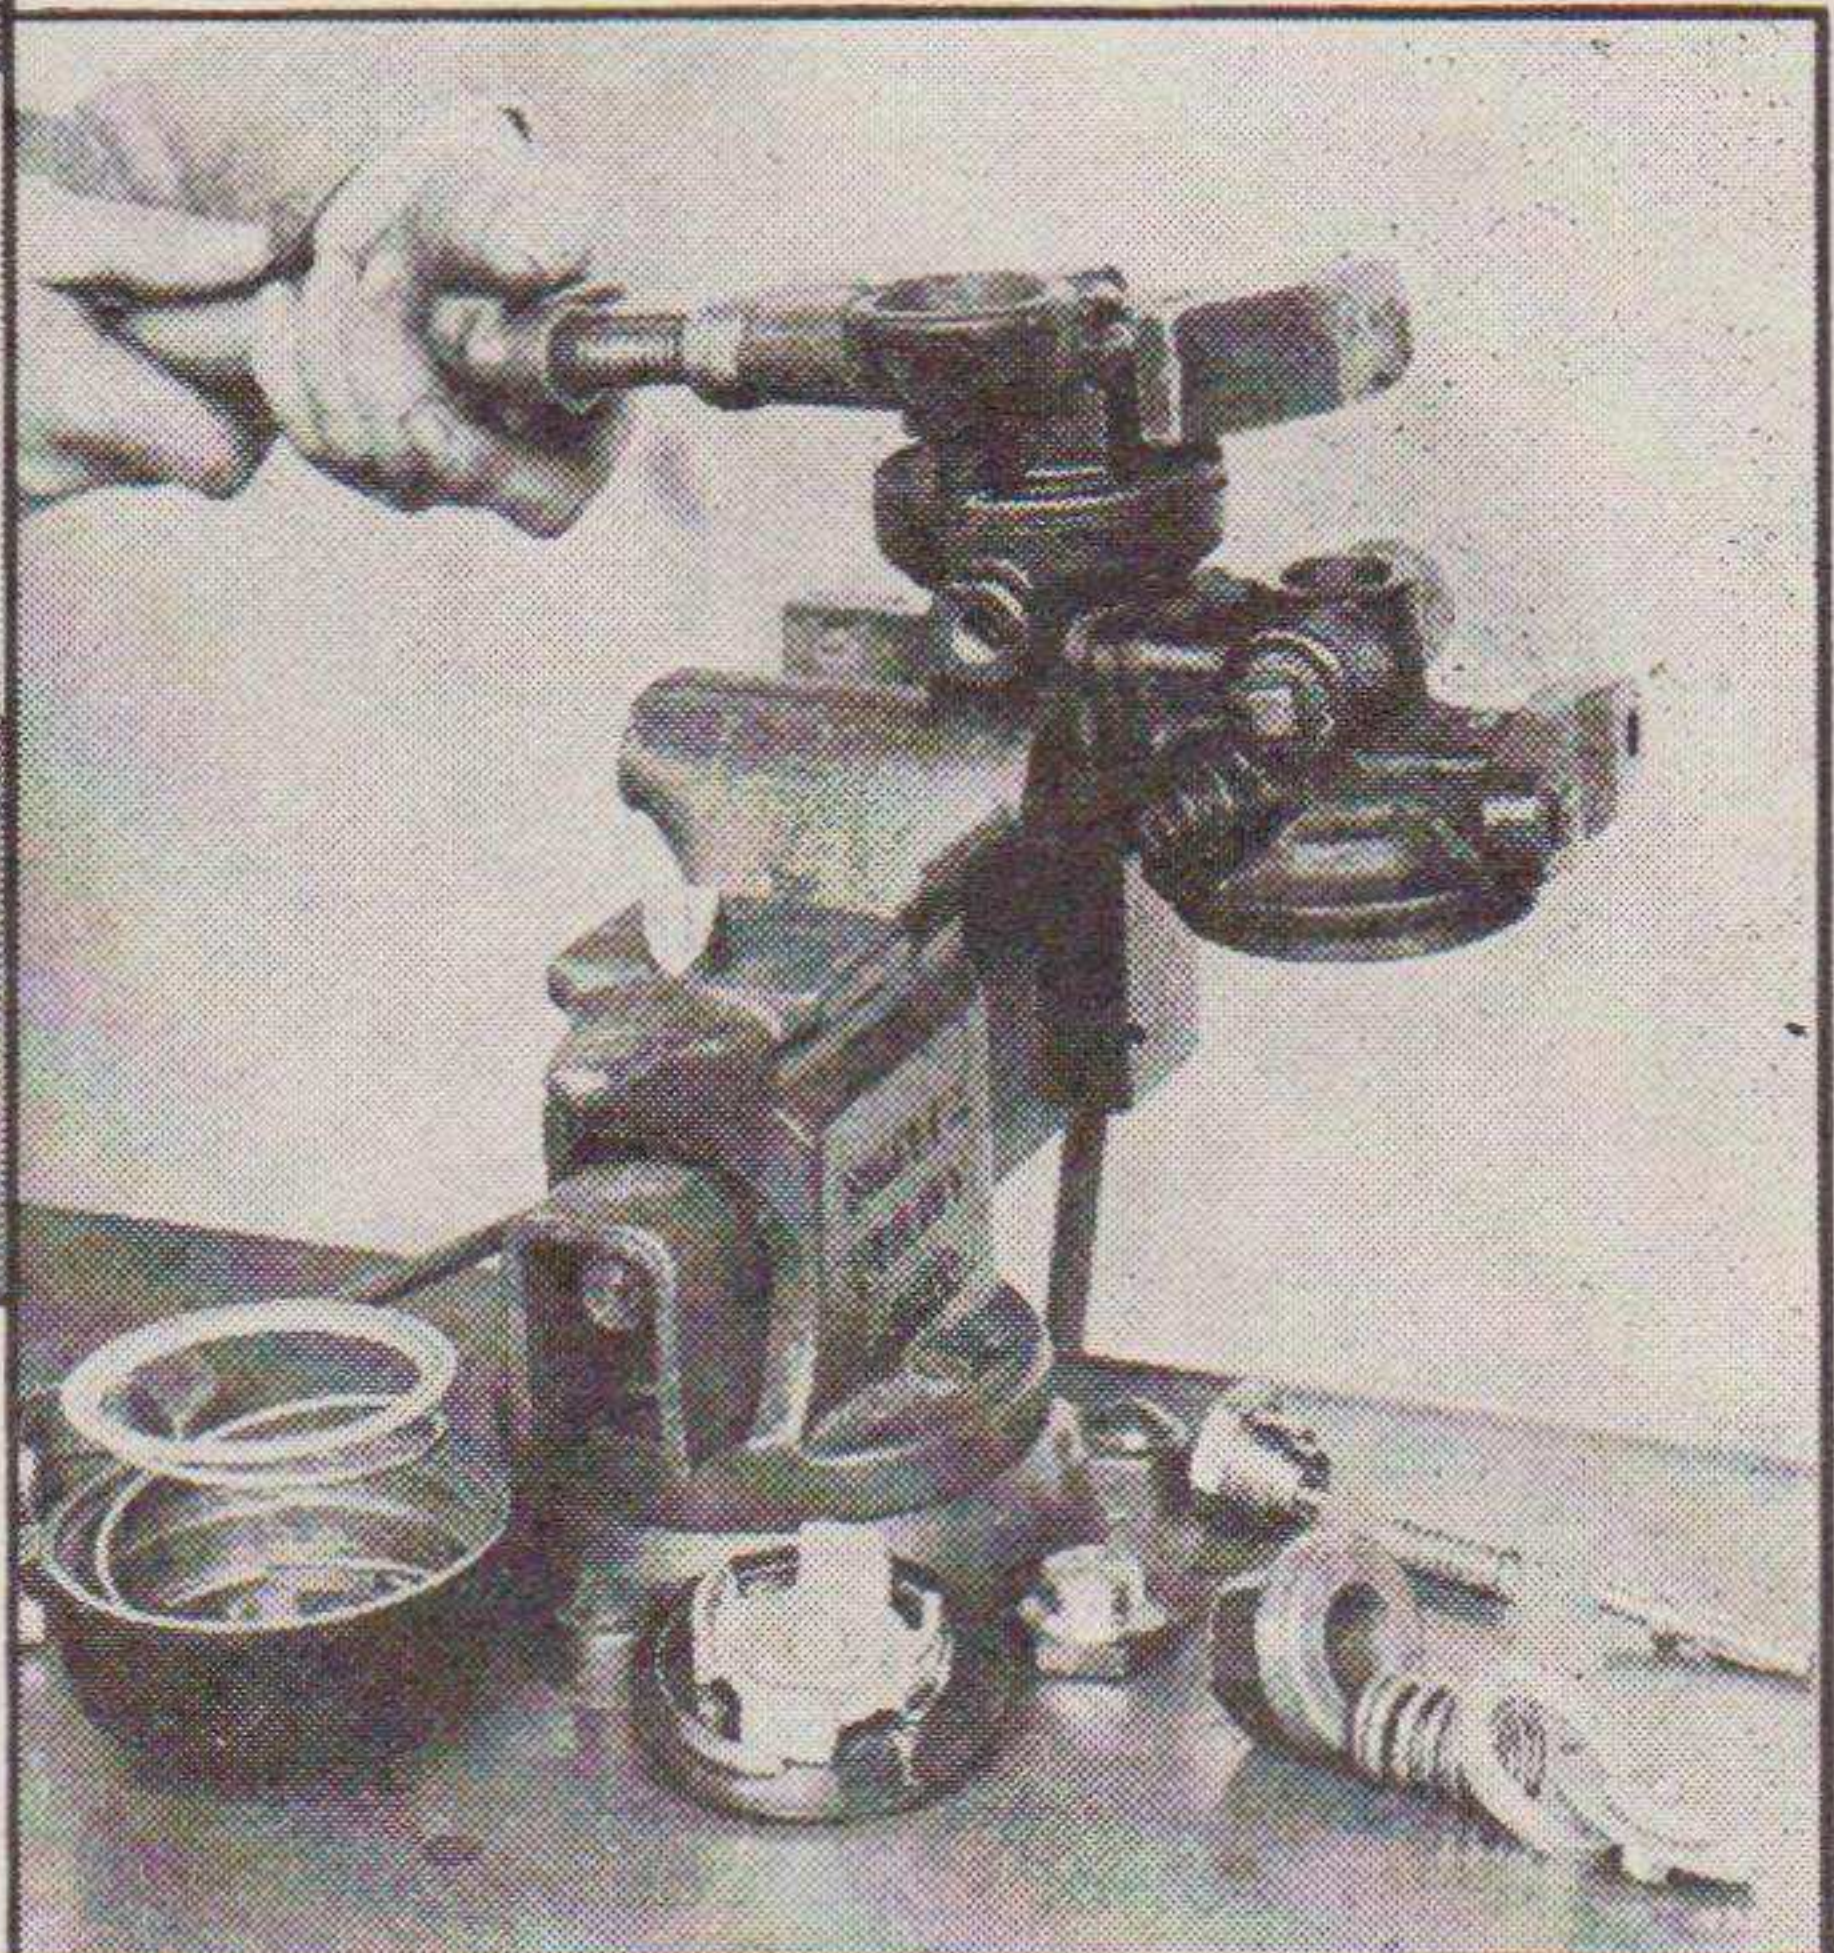

FIGURE 25. REMOVING DIAPHRAGM COVER BODY
b. Cleaning or Replacing Diaphragm "C"; Washing Strainer (Refer to Figure 21).—(1) Remove diaphragm cover body. (Figure 25.)